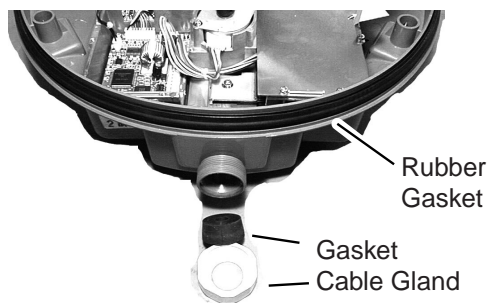

Figure 7 Antenna unit, inside view
13. Confirm that the rubber gasket is properly positioned and then tighten the fixing screws for the cover. Refer to Figure 7 for positioning of rubber gasket.